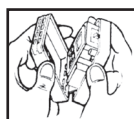

Fig. 3
3. Disconnect the front cover by pressing a hook on the top of the front cover with a screw driver. (see figure 2). Remove the front cover with your hand holding both sides of the cover (see figure 3).